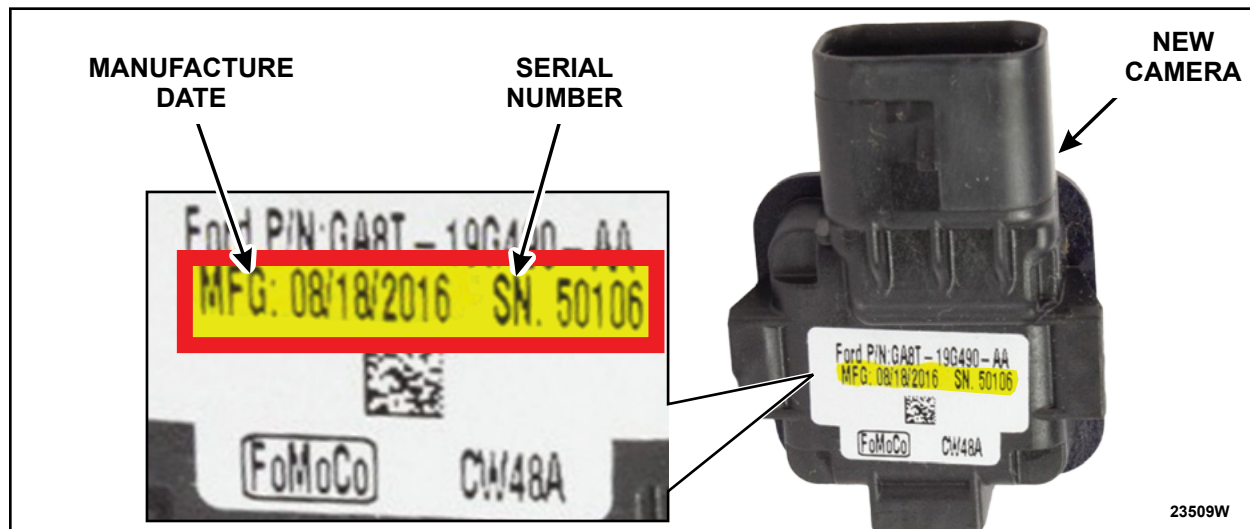

FIGURE 8
2. Write down and include the new camera manufacture date and serial number onto the repair order. The new camera manufacture date serial number should also be included in the warranty claim submission in the technician comments section. See Figure 8.